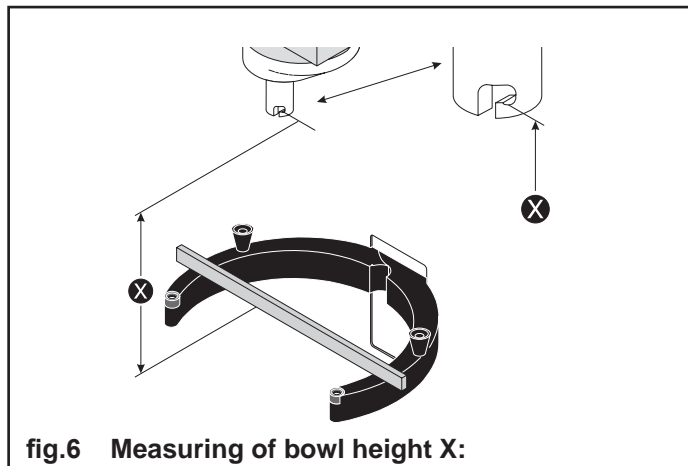

fig.6 Measuring of bowl height X:
The upper and lower position of the bowl is determined by micro switch (1) and (2), (fig. 6).